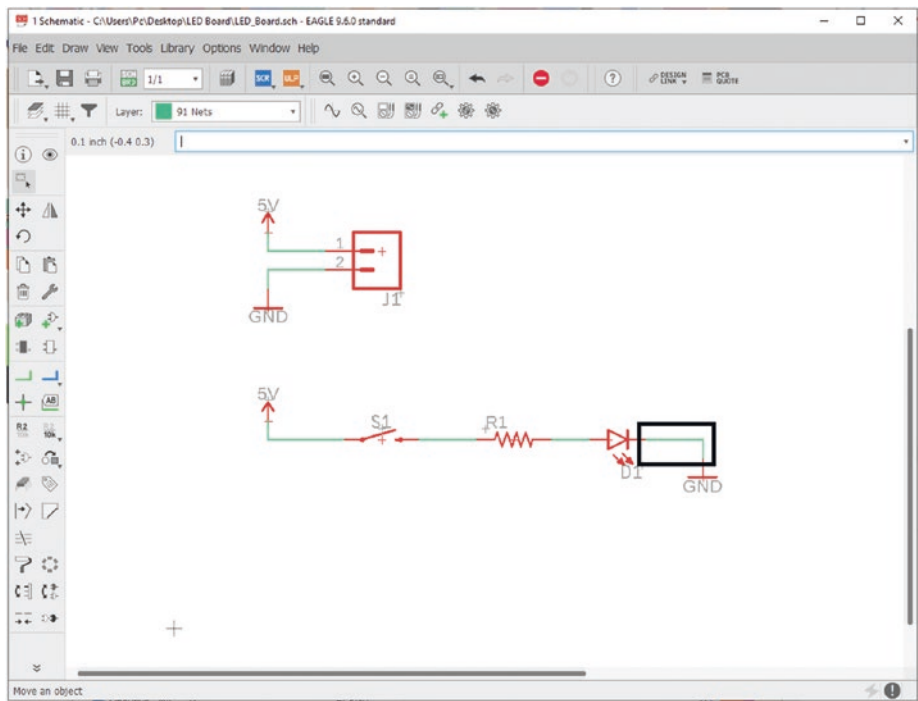

Figure 5-48. Connect the left side of D1 to GND
- 36. Connect the GND symbol to the cathode (right side) of the LED. See Figure 5-48.